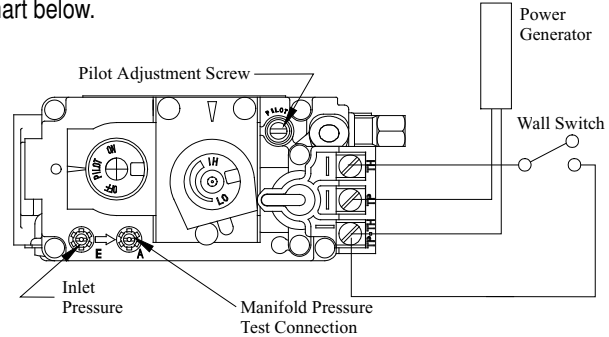

Figure 7. Sit Nova 820 gas valve.
To check the Inlet and Manifold gas pressures, a Water Column Pressure Gauge with 5/16" dia. tubing can be used. To test the Manifold Pressure, loosen the screw shown in Figure 7. Attach the gauge to the Manifold Pressure Test Connection and open the gas shut-off valve. The tubing must be tight in the connection to prevent gas leaks. Measure the Manifold Pressure and compare the value against the chart below.
- Locate the Pilot Adjustment Screw on the gas control valve. (See figure 7)